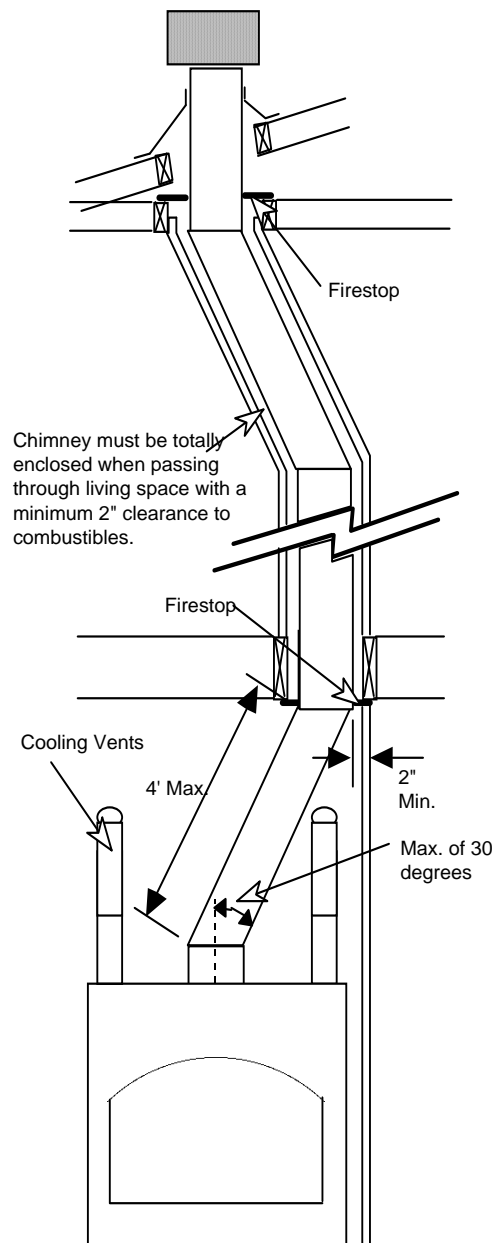

Figure 25
- Offsets (using a pair of 30° elbows) may be used to redirect the chimney. Typically this is done to avoid structures, align the pipe with framing, or to gain clearance to combustibles (see Figure 25).